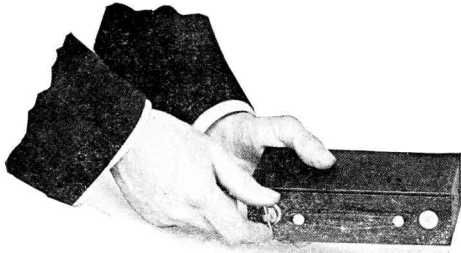

FIG. 8
**TURN A NEW SECTION OF FILM INTO POSITION:** Turn the winding key slowly to the left, until the next number appears before the red window. Three or four turns will be sufficient to accomplish this. See Fig. 8.